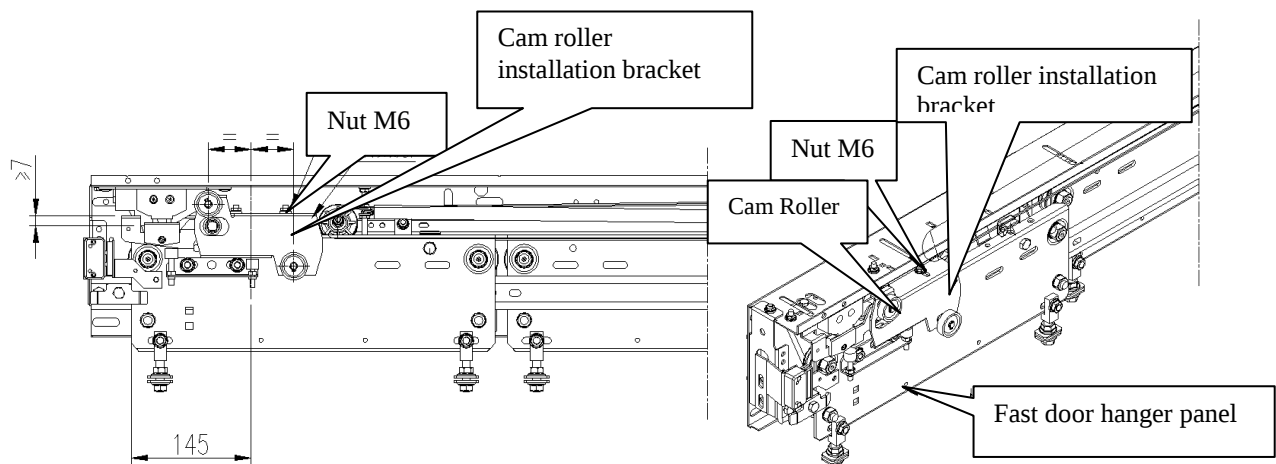

Figure 5-8-2 Landing door adjustment diagram
- 2) Loosen two M6 (A, B) nuts on the limit rubber, slowly rotate the limit rubber screw M6 (A), so that when the door lock is completely closed, the lock tip and the contact switch bracket engage will not less than 7mm, tighten nut M6 (A). Adjust the limit rubber screw M6 (B) to reserve enough space to facilitate the release of the lock tip when opening the door. Tighten nut M6 (B), refer to Figure 5-8-2.